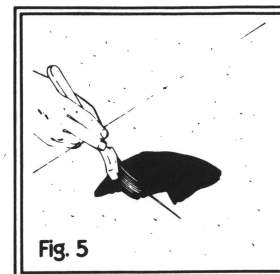

Fig. 5
2. Using the brush or putty knife, place a thin layer of asphalt cement over the crack. The cement should completely cover the cleaned area around the crack (fig. 5).